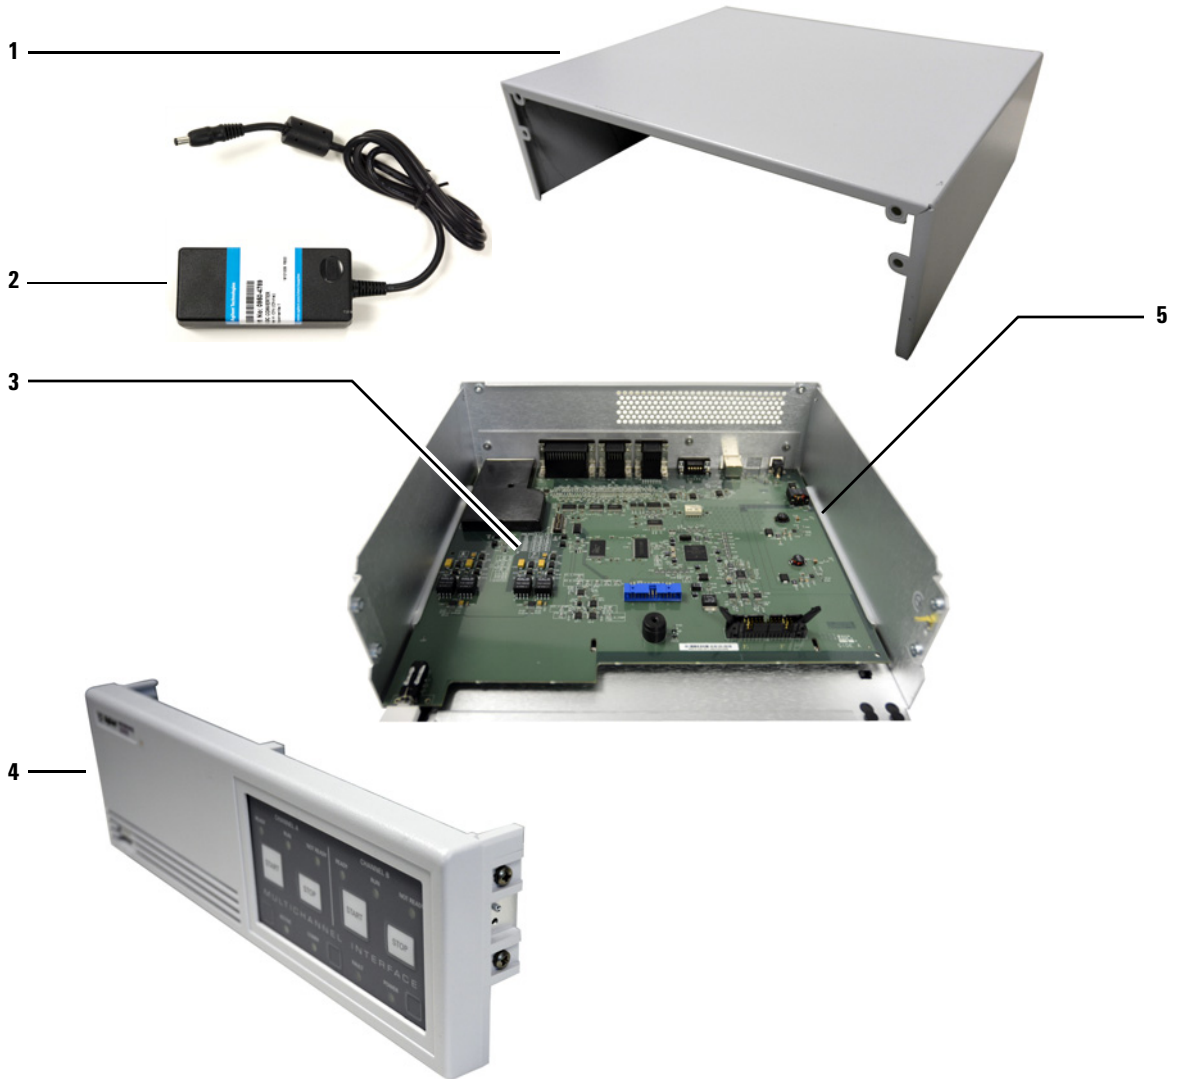

Figure 16 Replacement parts breakdown
- 5 Slide the main board out towards the front of the unit (Figure 16).
Table 12 Replacement parts for the 35900E Series II (Figure 16)